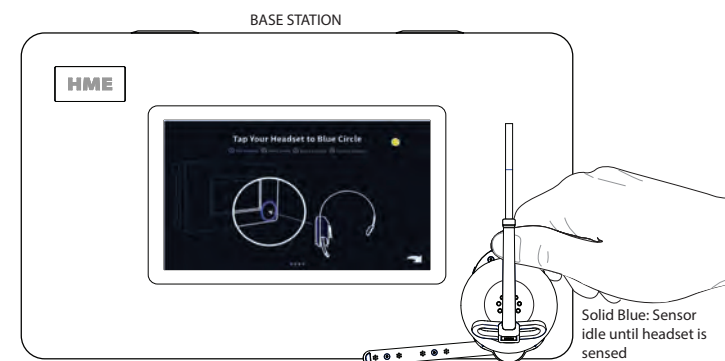

Fig. 3.3
- Pair the headset by holding the keypad side of the headset against the Headset Pairing Ring (solid blue circle) on the Base Station (see Fig. 3.3). Pairing begins automatically as soon as the headset is sensed.